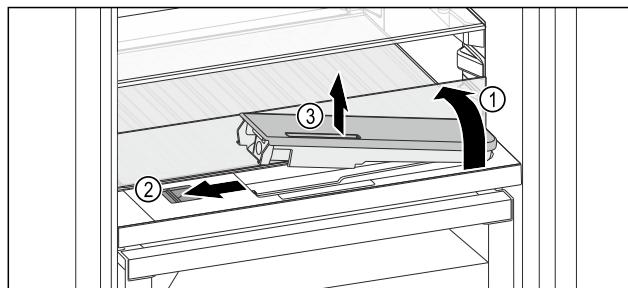

Fig. 150
- Lift the glass panel and fold towards the rear until it clicks into place Fig. 150 (1).
- Slide the slider Fig. 150 (2) to the left.
- Remove the water tank Fig. 150 (3).